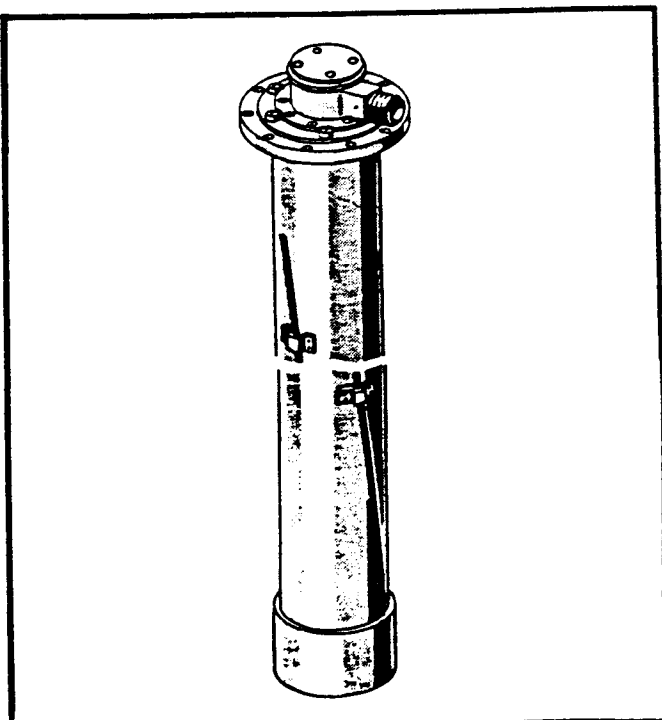

Figure 14. Fuel Level Transmitter
h. **TRANSMITTERS, ELECTRICAL.** (See figure 14.)
(1) The fuel-level transmitters are actu-